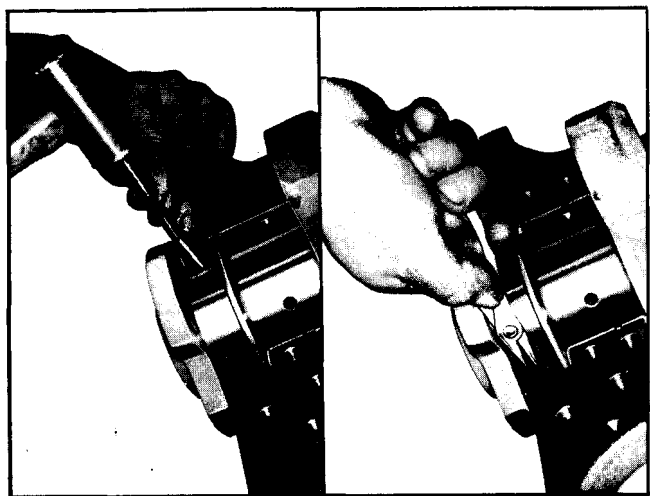

Fig. 6-144 Removing Oil Seal (Upper Half)
- b. To remove the upper half of the seal, use a small hammer to tap a brass pin punch on one end of seal until it protrudes far enough to be removed with pliers (Fig. 6-144).